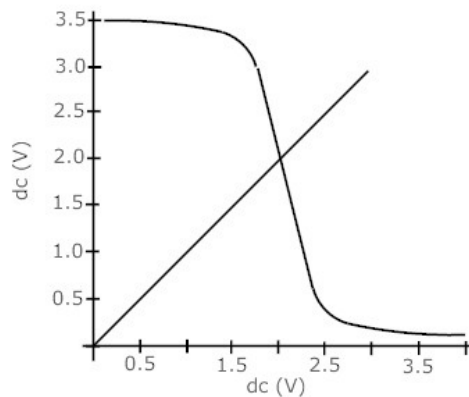

Fig.3
(b) The VTC of an inverter is shown in Fig.3. Using the plot, compute the V_{OH} , V_{OL} , V_{IH} , V_{IL} , N_{ML} and N_{MH} values of the inverter. Show your work. (10)